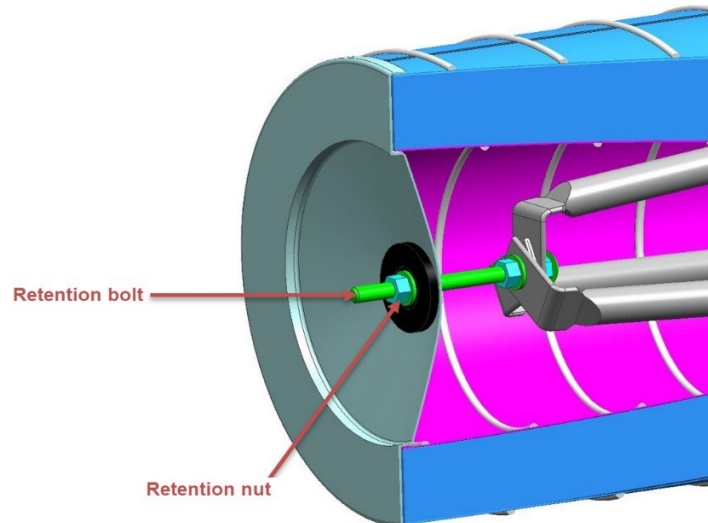

Figure 21: Assembly of retention nut
1. See fig.15 and fig. 21.
2. Screw the retention nut (fig15 item 6) to the threaded retention bolt on element support against the gasket washer as shown in Figure 21.